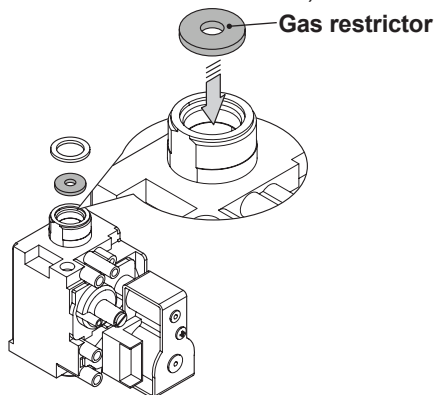

Fig. 9.2
- Carry out gas conversion by correctly replacing the gas restrictor (Fig. 9.2), referring to the "Technical Data" section (page 26 Advance Plus 25C ERP, page 30 Advance Plus 30C ERP and page 34 Advance Plus 35C ERP).